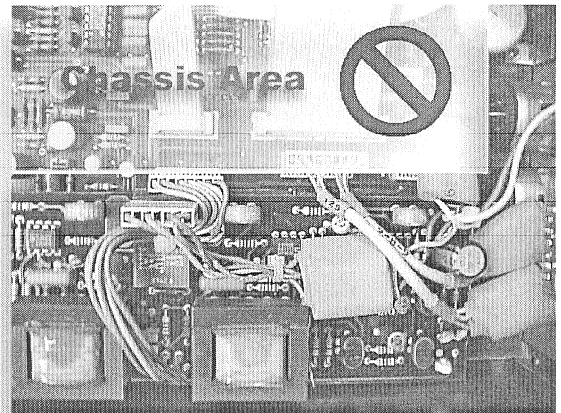

Fig. 6: Wire placement on Main Board (no wires in "Chassis Area"!)
- Reinstall and connect the Main Board. **Caution:** Take care to the placement of the wires with the filters (possibly in shrinking tube) relative to the Line Amplifier (refer to fig. 6). When installing the front panel, these filters must neither be touched nor pinched.